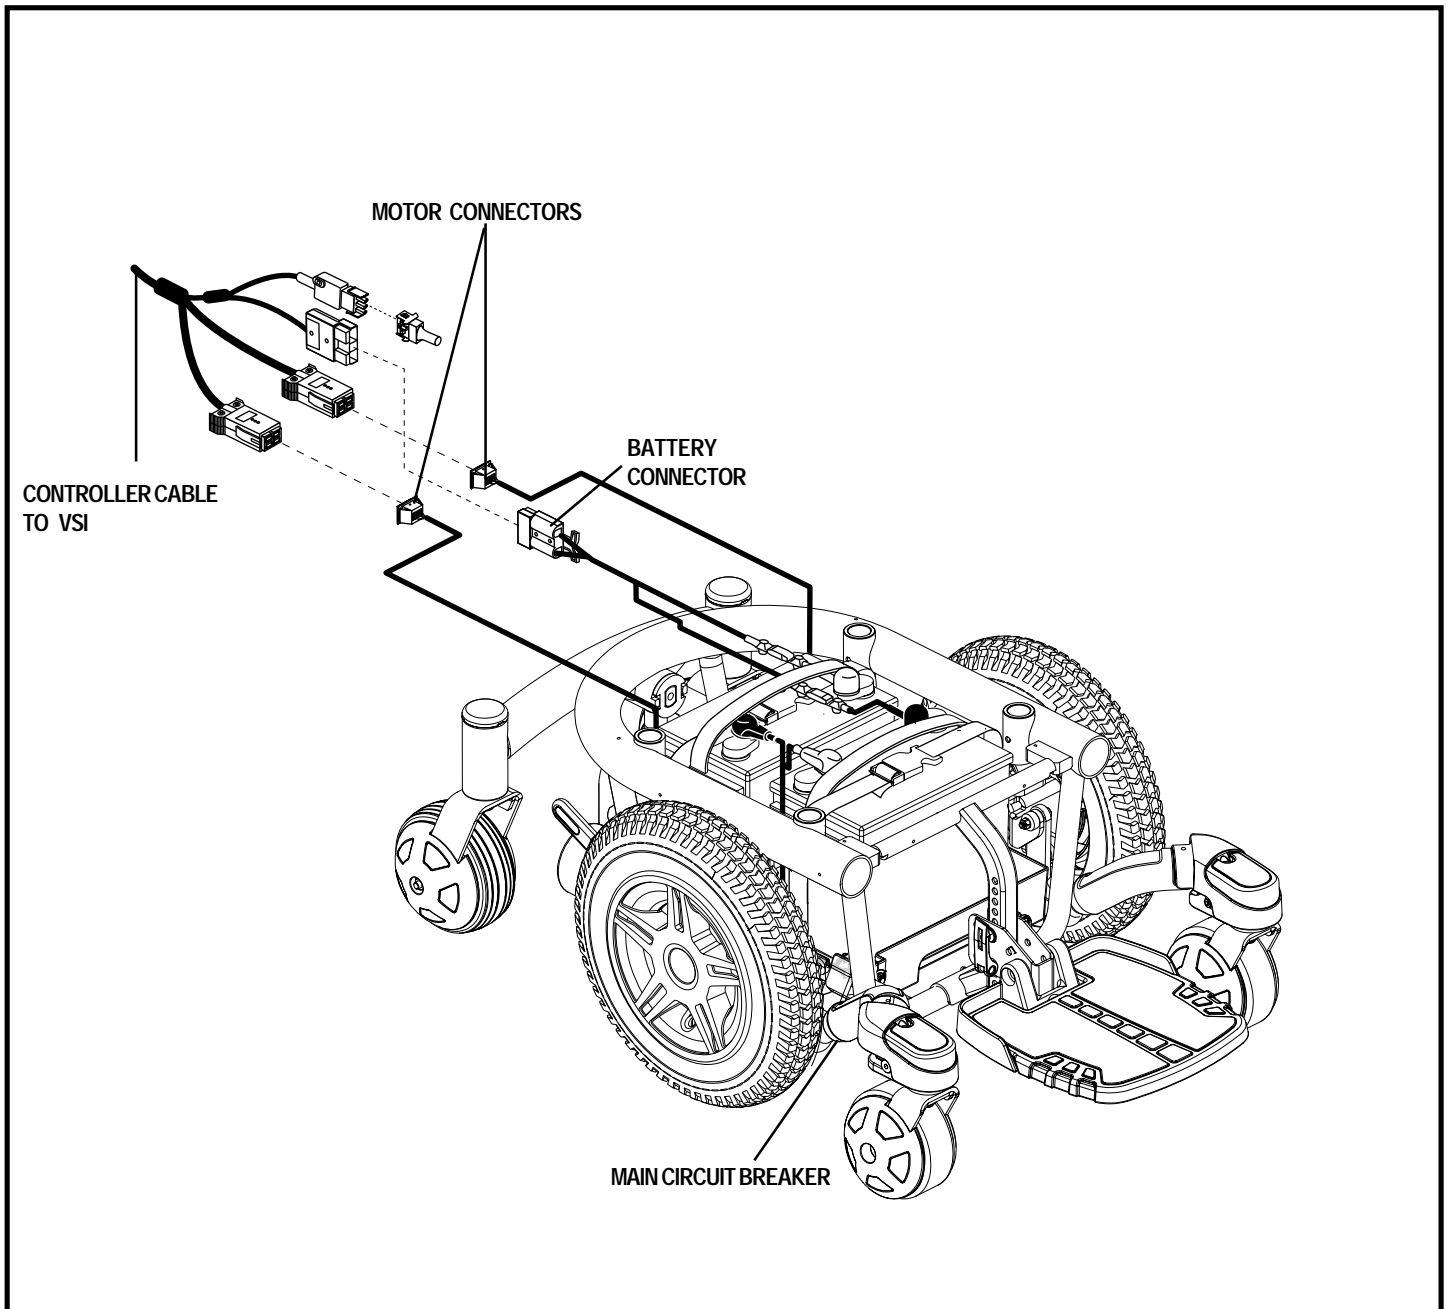

Figure 7. Quantum 500 Electrical Components
The electrical components consist of the controller assembly, the batteries, and the motors. The batteries and the motors are located on the power base assembly. The controller is located on the seat assembly. Connectivity between the controller and the motors and the batteries is provided by a controller cable. See figure 7.
3. Disconnect the controller connector(s) from the power base. See figure 7.